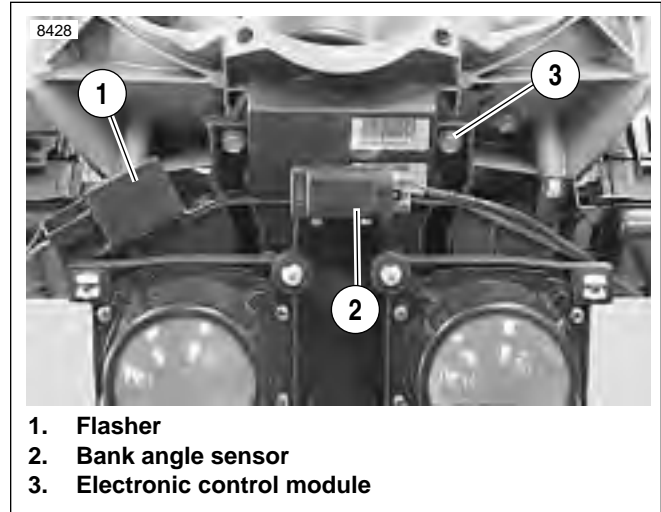
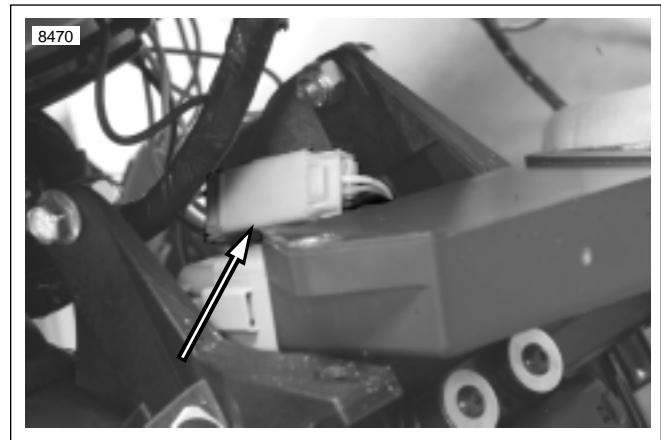
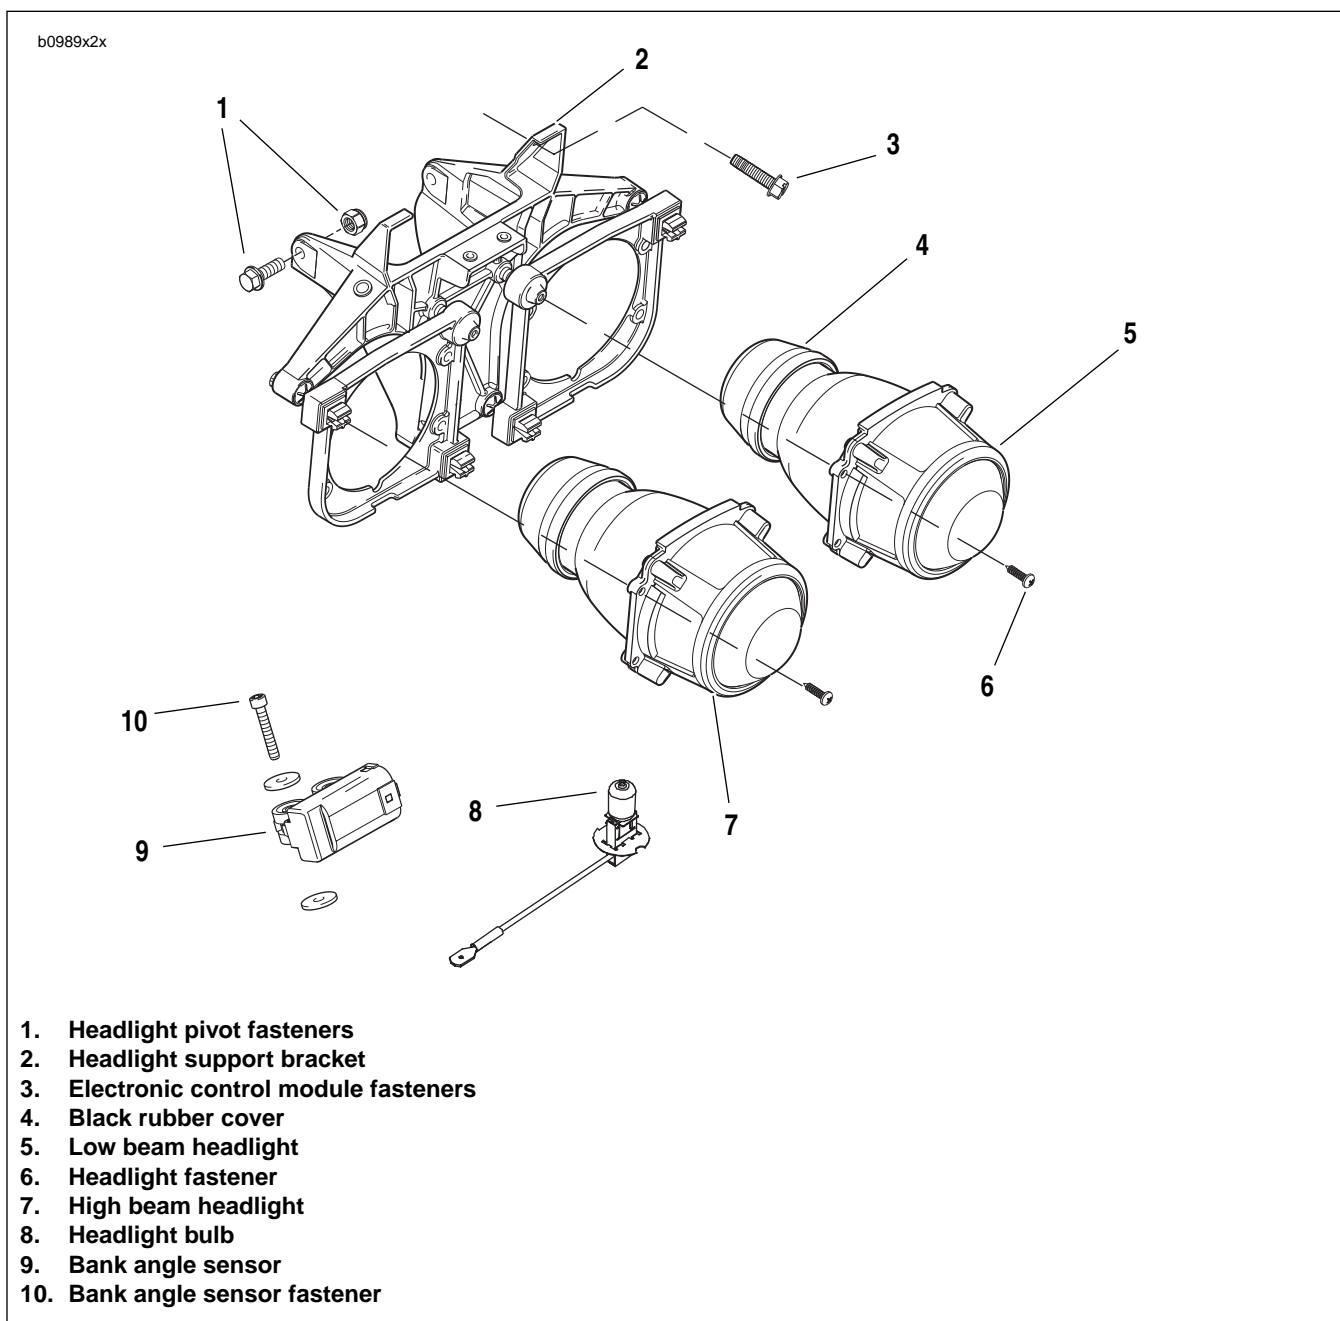

Figure 2-102. Headlight Support Bracket
Figure 2-103. Headlight Connector
Figure 2-104. Headlight Support Bracket Assembly
4. See Figure 2-102. Disconnect flasher (1) and bank angle sensor (2). Remove electronic control module fasteners (3).
5. See Figure 2-104. Rotate headlamp support bracket.
- a. Loosen headlamp pivot fasteners (1).
- b. Rotate headlight bracket (2) down.
6. See Figure 2-103. Disconnect headlight connection.
8. See Figure 2-104. Remove headlight support bracket (2).
1. See Figure 2-102. Remove bank angle sensor (2).
3. See Figure 2-104. Remove black rubber cover (4) from rear of headlights.
5. Disconnect headlight bulb (8) connector (white) from wire harness.
6. Remove headlights (5, 7) from headlight support bracket (2) by removing headlight fasteners (6).
1. See Figure 2-104. Align headlights (5, 7) into headlight support bracket (2). Tighten headlight fasteners (6) to 20-25 **in lbs** (2.3-2.8 Nm).
2. Connect headlight bulb (8) connector (white) into wire-harness.
4. Install black rubber cover (4).
5. See Figure 2-102. Install bank angle sensor connector case (2). Tighten to 12-36 **in-lbs** (1-4 Nm).
6. Install flasher (1) and tighten to 30-40 **in-lbs** (3-5 Nm).
2. See Figure 2-104. Install headlight pivot fasteners (1) but do not tighten.
4. See Figure 2-103. Attach headlight connector to headlight support bracket.
6. See Figure 2-104. Rotate headlight support bracket up (2) and tighten pivot fasteners (1) to **72-96 in-lbs** (8-11 Nm).
7. See Figure 2-102. Install electric control module.
- a. Figure 2-104. Align electronic control module and headlight support bracket with fairing support bracket.
- b. Tighten electronic control module fasteners (3) to **72-96 in-lbs** (8-11 Nm).
8. See Figure 2-102. Connect flasher (1) and bank angle sensor (2).